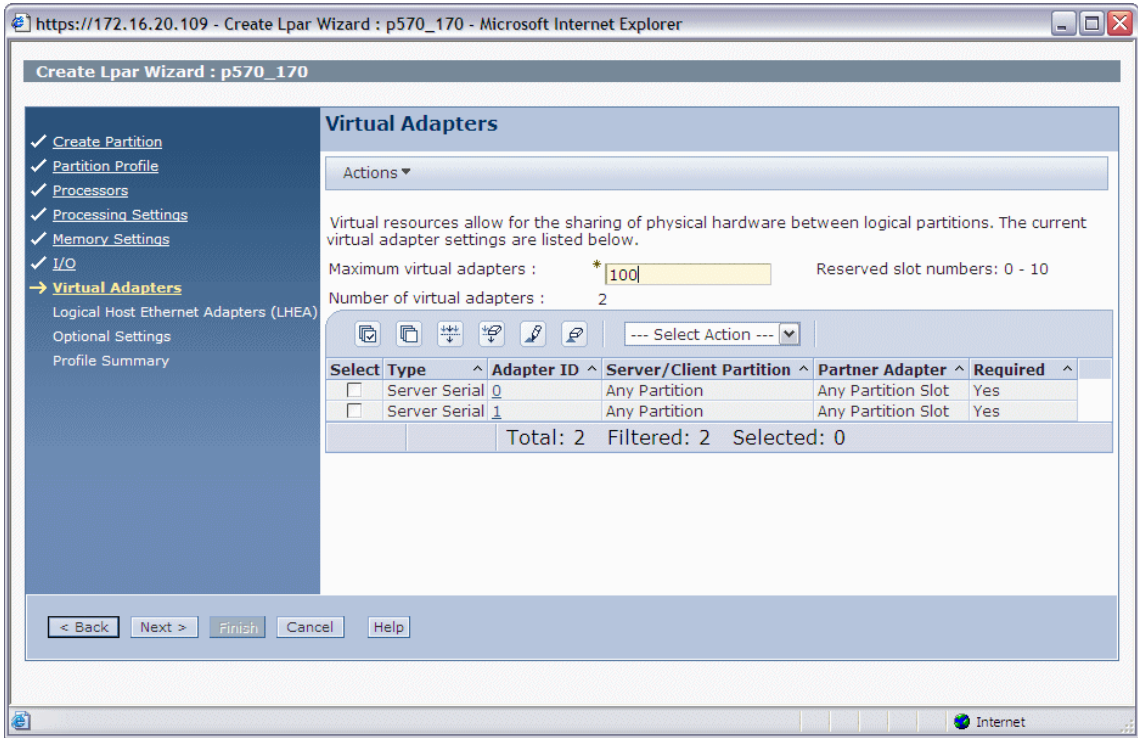

Figure 12-10 HMC start menu for creating virtual adapters
8. Create virtual Ethernet and virtual SCSI adapters. The start menu is shown in Figure 12-10. We increased the maximum number of virtual adapters to 100 to allow for a flexible numbering scheme.